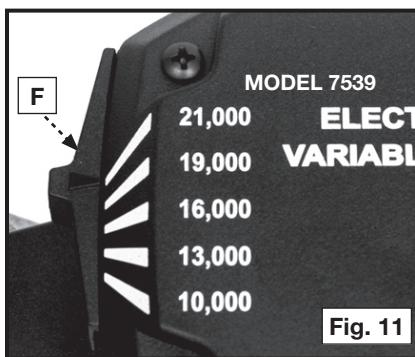

Fig. 11
Five operating speeds from 10,000 RPM to 21,000 RPM are available by moving the speed selector knob (F) Fig. 11. Set the speed prior to engaging the router bit into work. To change the speed after work has begun, stop the router, remove the router from the workpiece, and adjust the speed setting.